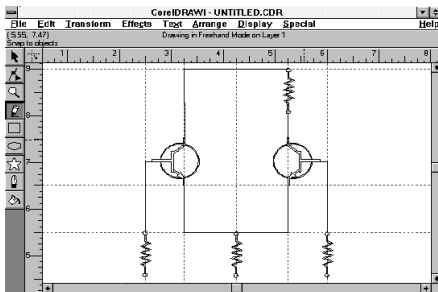

Fig. 19
**42.** We are going to draw the lead connections for the right transistor. In the same manner as done with the left transistor's base lead, draw the lines from the right most resistor to the base lead of the right transistor. The drawing should now look as it does in **Figure 19**.